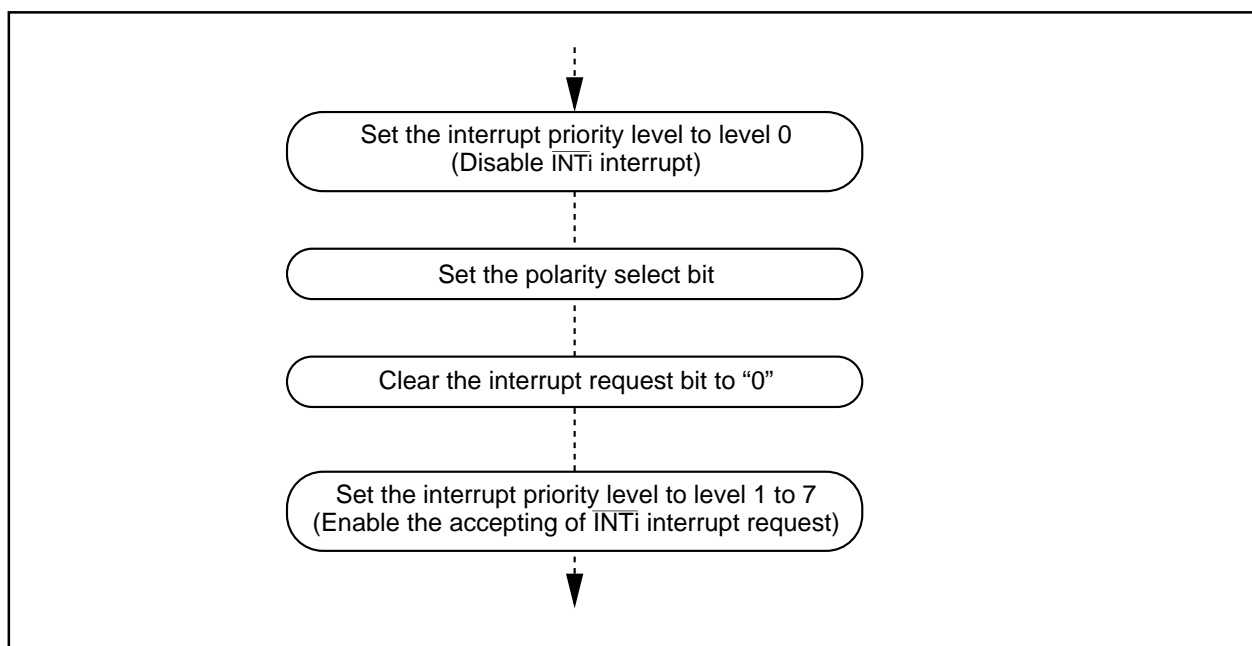

Figure 4.7.1. Switching condition of $\overline{\text{INT}}$ interrupt request
(3) The $\overline{\text{NMI}}$ interrupt
(4) External interrupt
- When the polarity of the INT0 to INT2 pins is changed, the interrupt request bit is sometimes set to "1". After changing the polarity, set the interrupt request bit to "0". Figure 4.7.1 shows the procedure for changing the $\overline{\text{INT}}$ interrupt generate factor.